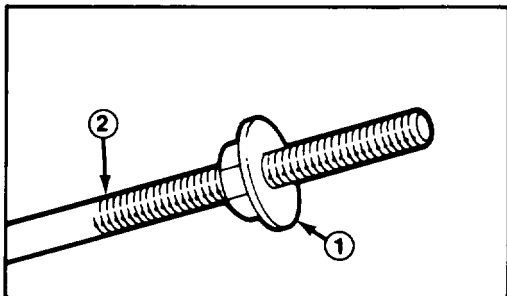

Figure 2
1. Thread a flange nut (flange side down) onto traction rod located on left handle (Fig. 2).